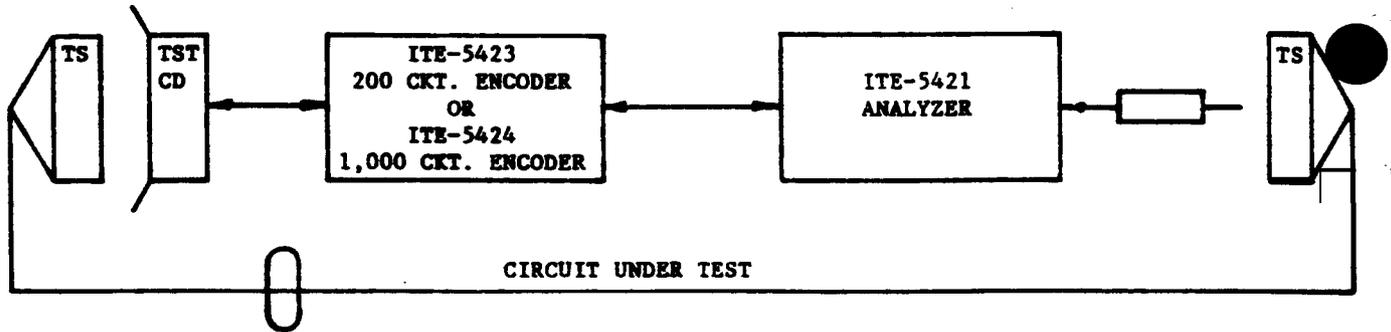

FIG. 6 MANUAL PROBING SETUP
8.31 The ELVS can operate in two modes; a manual mode and in automatic mode. FIGS. 6 and 7 show the basic elements in each mode.